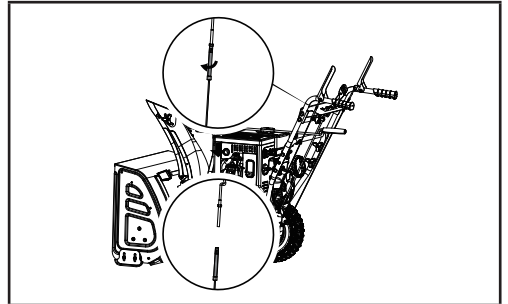

Figure 38
4. Unscrew the bolt of auger control wire (Fig. 38).